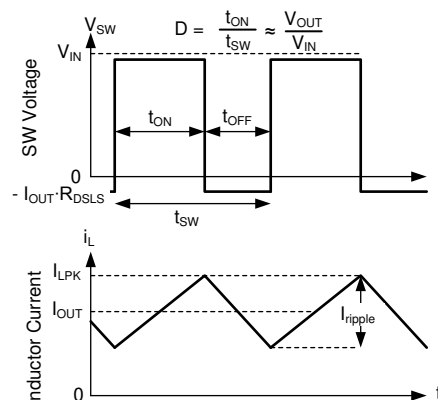

図 8-20. SW Voltage and Inductor Current Waveforms in Continuous Conduction Mode (CCM)
The following operating description of the LM6x4xx-Q1 refers to セクション 8.2 and the waveforms in 図 8-20. Both supply a regulated output voltage by turning on the internal high-side (HS) and low-side (LS) NMOS switches with varying duty cycle (D). During the HS switch on-time, the SW terminal voltage, V_{SW} , swings up to approximately V_{IN} , and the inductor current, i_L , increases with a linear slope. The HS switch is turned off by the control logic. During the HS switch off-time, t_{OFF} , the LS switch is turned on. Inductor current discharges through the LS switch, forcing V_{SW} to swing below ground by the voltage drop across the LS switch. The regulator loop adjusts the duty cycle to maintain a constant output voltage. D is defined by the on-time of the HS switch over the switching period: $D = T_{ON} / (T_{ON} + T_{OFF})$.